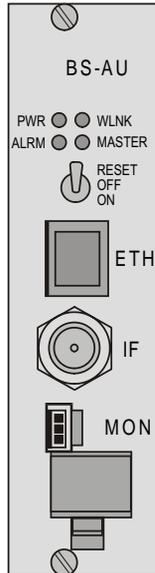

Figure 2-5. BS-AU Front panel
The BS-AU front panel is shown in Figure 2-5.
3. Connect the IF cable(s) to the connector(s) marked IF located on the front panel(s) of the BS-AU module(s) shown in Figure 2-5. The other side of the IF cable is already connected to the outdoor unit.